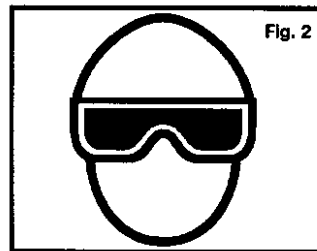

Fig. 2
2. Operator and others in work area MUST wear safety glasses with side shields. These safety glasses must conform to ANSI Z87.1 requirements (approved glasses have "Z87" printed or stamped on them). Fig. 2.